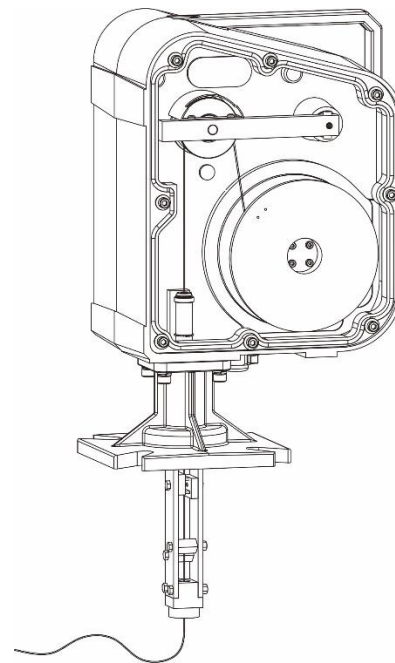

Fig.2
8.2.2 Insert the end of the cable wire through in order from the measuring pulley, sliding rod, dustproof brush, dust wiper, dustproof mechanism base (note that the sequence path cannot be misplaced, refer to Fig. 2). Straighten out the cable wire and eliminate bending or entanglement to ensure it could rewind smoothly, and if it stands on high location, please drop the cable wire freely at a safe area.
8.2.3 Put on the gloves on one hand and slightly drag the cable wire to avoid being too loose when it winds up. Operate the power ON/OFF by the other hand to control the receiving pulley to wind up the cable wire smoothly. Put the cable wire in the tray smoothly, and leave a short section (0.5~1m) in front of the dustproof mechanism base in order for weight installation (Fig.2).